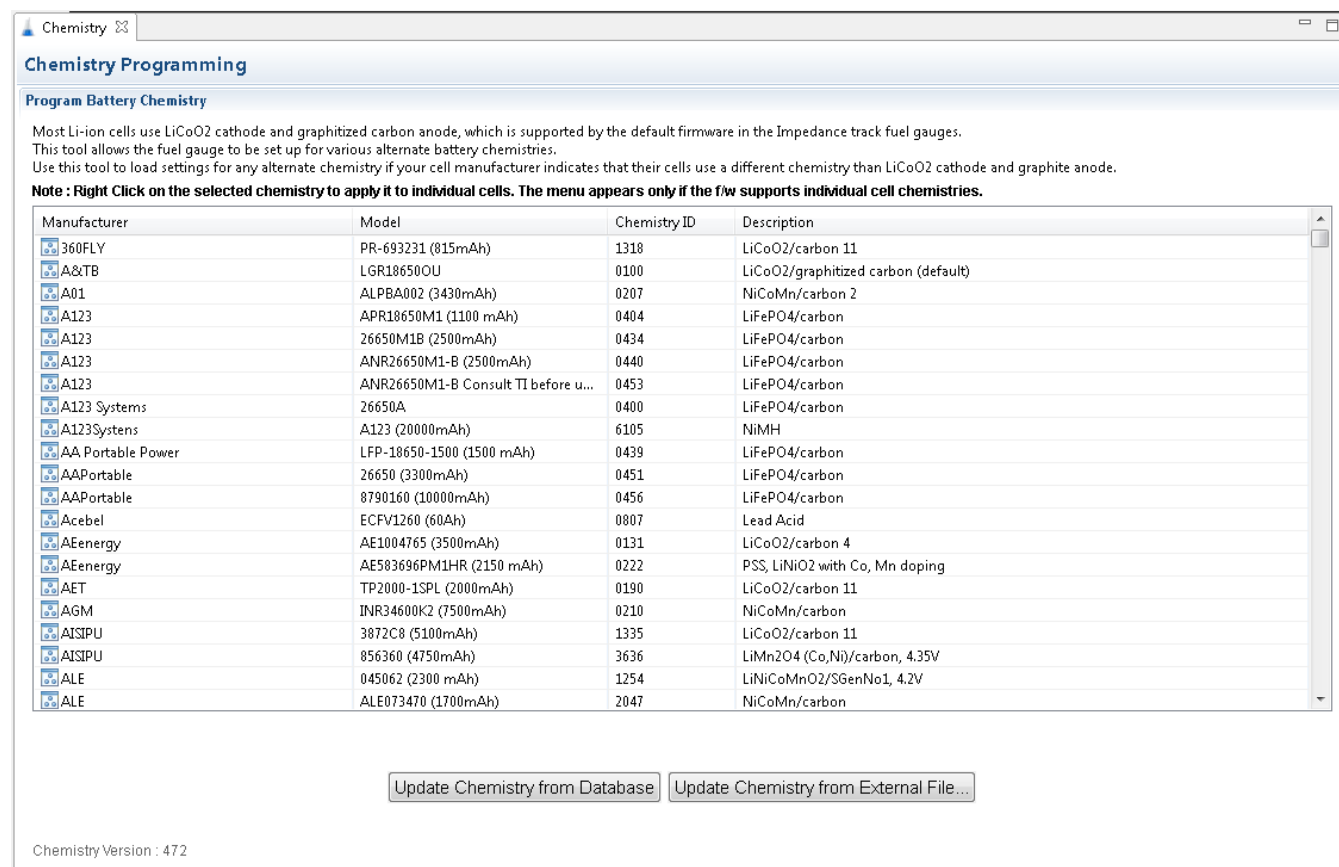

Figure 5. Chemistry Screen
Press the **Chemistry** button to select the *Chemistry* window, see Figure 5.
- Select the *Chemistry ID* that matches your cell from the table (see Figure 5).